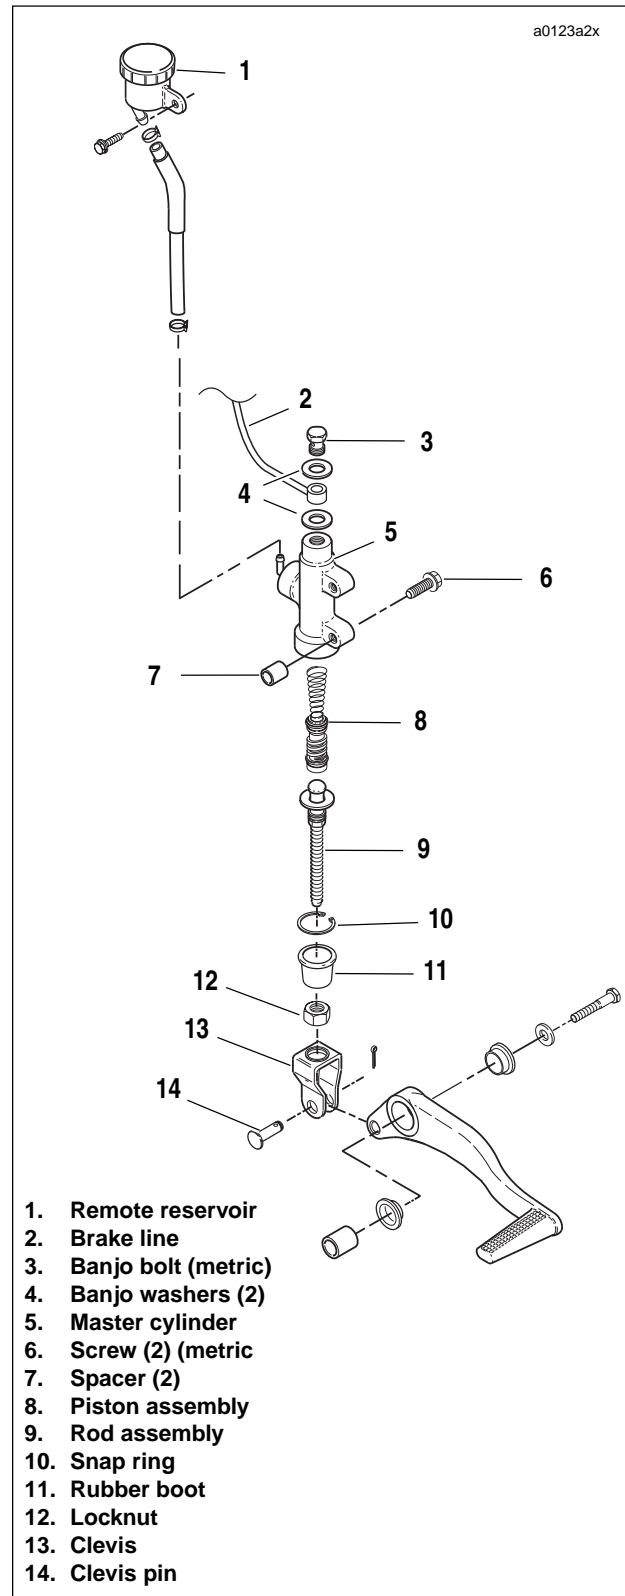

Figure 2-46. Rear Master Cylinder Assembly
2. See Figure 2-46. Remove banjo bolt (3) (metric) and two banjo washers (4) to detach brake line (2) from master cylinder (5). Discard banjo washers.
3. Disconnect push rod (9) from brake pedal clevis (13).
- a. Spin locknut (12) away from top surface of clevis.
- b. Turn rod assembly (9) to free rod from clevis (13).